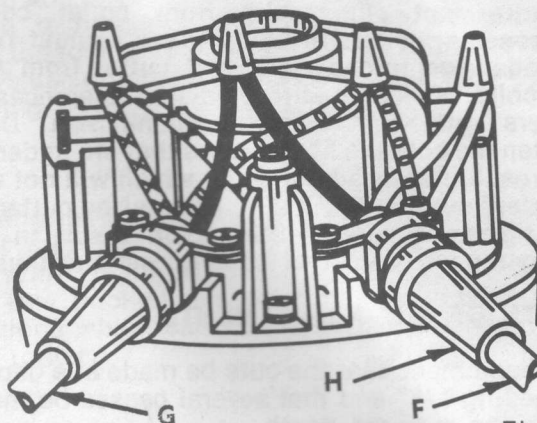

Fig. 4
2. Remove two screws and clamping plate that secures cord in router. See Fig. 4.
3. Note location and connection of each lead. When replacing power cord (F) the white cord lead must be connected to the white motor lead and the black cord lead to the black lead of the handle cord (G).
5. Place bend relief (H) on cord and make lead connections.